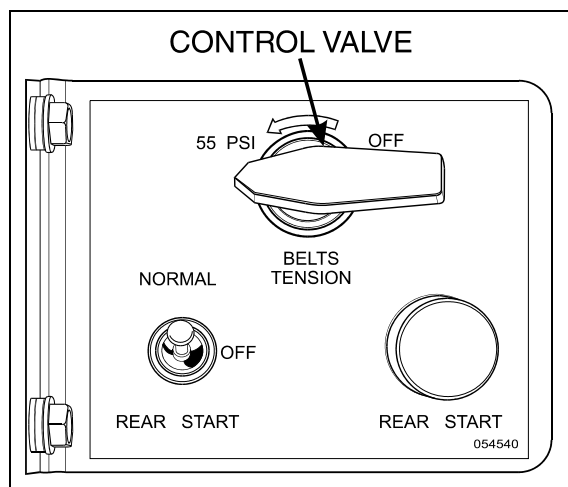

FIGURE 14: ENGINE COMPARTMENT
4. Locate the belt tensioner control valve (Fig. 14). Turn handle counterclockwise in order to release pressure in belt-tensioner air bellows and loosen belts. Remove the belts.